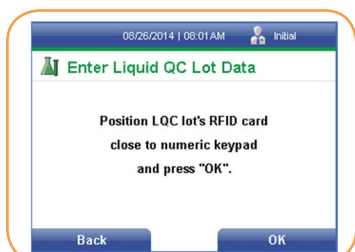

FIGURE 102
7. Press the right soft key to select Run LQC (Figure 102).